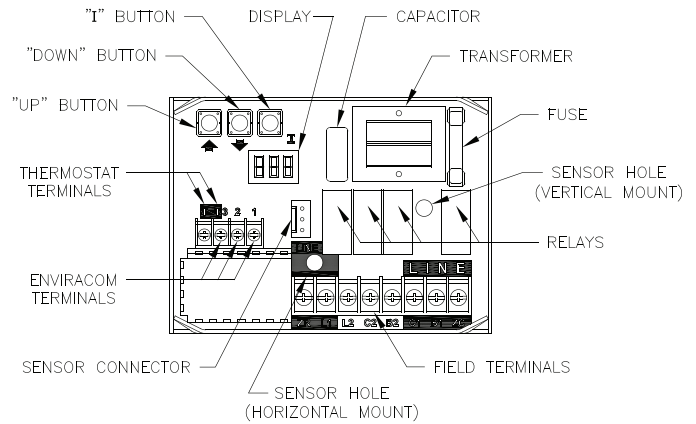

Figure 25: Intelligent Oil Boiler Control
- b. The boiler's sequence of operation is shown as Status Codes on Cold Start Boiler Control display. See Table 5 and Figure 25.
- d. If the thermostat is not satisfied and the Operating Setpoint (SP) is reached the system circulator will continue to operate and the burner will stop. When the boiler water temperature drops below the setpoint less the differential setting the burner will restart.
- f. When an indirect water heater aquastat call for heat is wired to the "ZR" terminal the Boiler Control starts a domestic hot water circulator connected to the "ZC" terminal and when the boiler temperature is less than Operating Setpoint (SP), the Cold Start Boiler Control energizes the oil primary to turn on the burner without circulator pre-purge delay.
- b. The boiler's sequence of operation is shown as Status Codes on Warm Start Boiler Control display. See Table 5 and Figure 25.